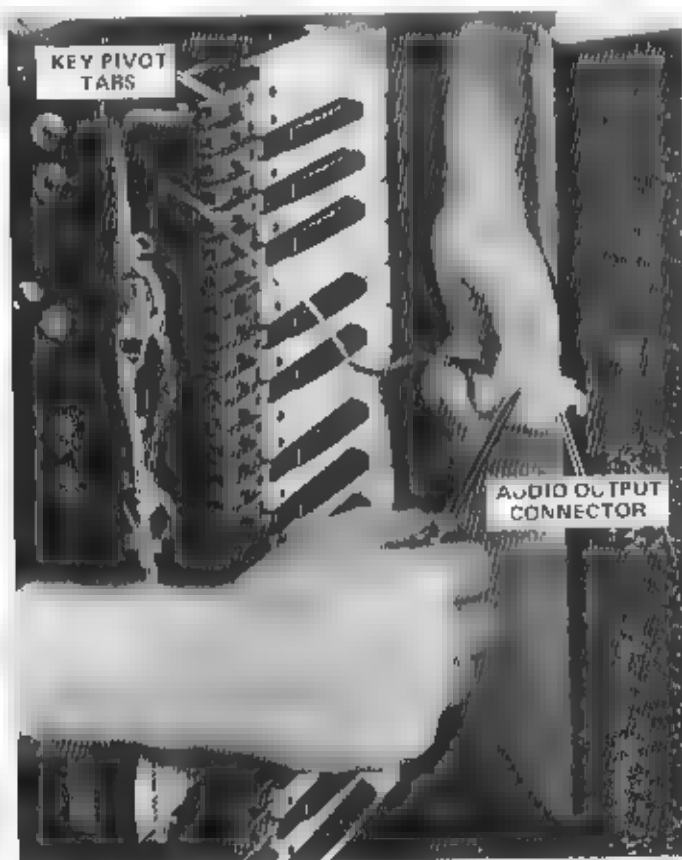

FIGURE 3-2 UNPLUGGING AUDIO OUTPUT CONNECTOR
a) Pull up on the back of the case, slide the case forward to clear the key tips and lift off. Partially open the case and pry apart the 8-pin audio output cable connector. Note how cable and connector lie atop the main PC board so as not to interfere with the tails of the keys. (See Figure 3-2)